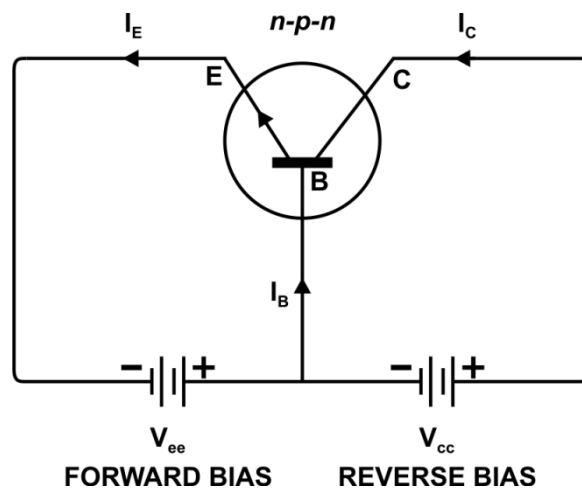

Fig. 2.3 Action of n-p-n transistor
- Fig. 2.3 shows the proper biasing of an n-p-n transistor. The n-type emitter is forward biased by connecting it to negative pole of the battery V_{ee} (emitter-base battery) and n-type collector is reverse biased by connecting it to the positive pole of the battery V_{cc} (collector-base battery).
- The majority carriers (which are electrons) in the emitter are repelled towards the base due to the forward bias. The base contains holes as majority carriers but their number density is small as it is doped- lightly as compared to emitter or collector. Due to this, the probability of electron-hole combination in base region is very small (5%). Most of the electrons (95%) cross into collector region, where they are swept away by the positive terminal of the battery V_{cc} connected to the collector. Fig. 2.3